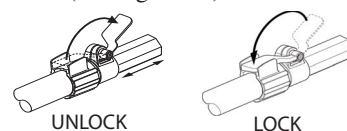

Figure 27 - Extending Telescopic Pole
1. To extend the pole, loosen the clamping lever (see Figure 27). Pole will slide freely.
3. To lock pole in position, tighten clamping lever (see Figure 27).